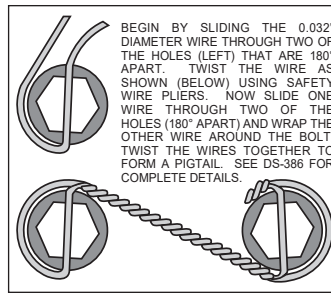
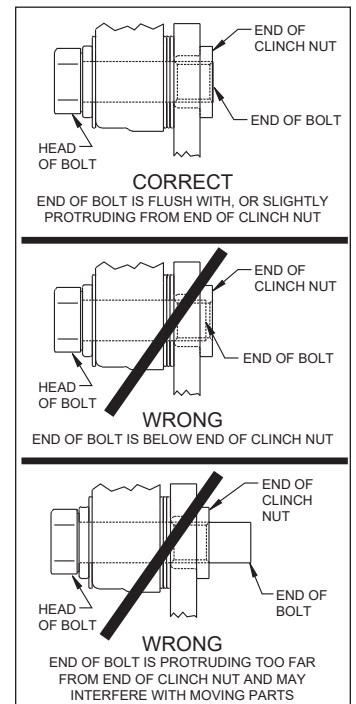

Figure 3. Safety Wire Diagram
Figure 4. Clinch Nut Engagement Diagram
Assembly Instructions (numbers in parenthesis refer to the parts list, on the preceding page and Figure 1): **CAUTION:** All mounting bolts must fully engage clinch nuts. Be sure to check that all bolts are either flush or protruding through flanged side of clinch nut after shimming, Figure 4.
Orient the rotor (8) and the rotor adapter (7) as shown in Figure 1 and Photo 5. Attach the rotor to the adapter using bolts (9). Using an alternating sequence, apply red *Loctite*® 271 to the threads, and torque to 25 ft-lbs. Safety wire bolts using standard 0.032 inch diameter stainless steel safety wire as shown in Figure 3. Refer to Wilwood's data sheet DS-386 (available at www.wilwood.com/Pdf/DataSheets/ds386.pdf) for complete safety wire installation instructions.
- Pack the small outer bearing cone (11) with high temperature disc brake bearing grease and install into hub (4). Slide the hub/rotor assembly onto the spindle. Secure using spindle washer (12) and OEM spindle nut, Photo 7. Adjust bearings per OEM specifications. Install saved OEM nut lock (if any) and a new cotter pin (not included).
- Screw dust cap (13) into hub (4), Photo 8. Friction created by the o-ring (14) on the dust cap keeps it from unscrewing. **NOTE:** The O.D. of the existing OEM spindle washer may be larger than the I.D. of the dust cap not allowing it to seat against the hub face. Therefore, use the spindle washer (12) supplied with the kit instead of the OEM washer.
- NOTE:** Please reference the caution statement at the beginning of the assembly instructions. Mount the caliper (15) onto the caliper mounting bracket (1) using bolts (16) and washers (17), as shown in Figure 1. Initially place one .035" thick shim (18) on each bolt between the caliper and the bracket, Photo 9. Temporarily tighten the mounting bolts and view the rotor (8) through the top opening of the caliper. The rotor should be centered in the caliper, Photo 10. If not, adjust by adding or subtracting shims (18) between the bracket and the caliper. Always use the same amount of shims on each of the two mounting bolts. **NOTE:** The end of each bolt must be flush with or slightly protruding from the head of the clinch nut, as shown in Figure 4. If necessary place spare shims (18) between washer (17) and caliper mounting ear to achieve the proper clinch nut engagement. Once the caliper alignment and clinch nut engagement are correct, remove the bolts one at a time, apply red *Loctite*® 271 to bolt threads, and torque to 40 ft-lb. For an added measure of security, the bolts may be safety wired using standard 0.032 inch diameter stainless steel safety wire as shown in Figure 3. Refer to Wilwood's data sheet DS-386 (available at www.wilwood.com/Pdf/DataSheets/ds386.pdf) for complete safety wire installation instructions.
- Install the disc brake pads (19) into the caliper, with the friction material facing the rotor (8), Photo 11, and secure in place using cotter pin (20), Photo 12.